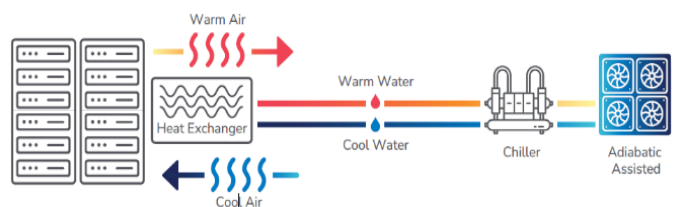

Fig 4: Adiabatic assisted cooling
3. **Evaporative or ‘Adiabatic’ Assisted cooling:** this tends to restrict the use of water to very hot days to reduce load on the chillers (which in turn means that the facility can be run with less mechanical chiller capacity than you would need for a fully dry system). In this case a fine spray of water is directed to the airflow of the chiller, cooling it by evaporation and significantly reducing the chiller workload. Water consumption depends on how often the adiabatic assistance is deployed: if it is restricted to just the hottest days, then annual water consumption can be very modest. (Fig 4).